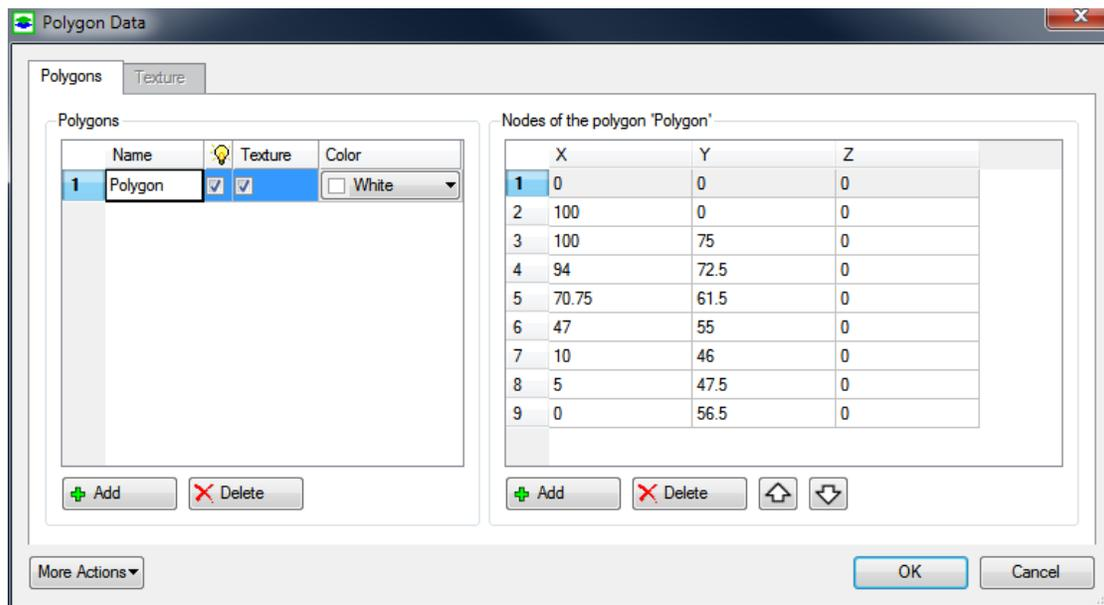

Figure 2.13. The Polygon Data dialog box
2. Select *Create New Object* from the popup menu to display the *Polygon Data* dialog box (Figure 2.13), where you can import Polygon files and/or edit Polygon data. The options of the Polygon Data dialog box are listed below.
- *Edit Data:* Click the  button to open the *Polygon Data* dialog box (Figure 2.13) where you can make changes to the Polygon data.